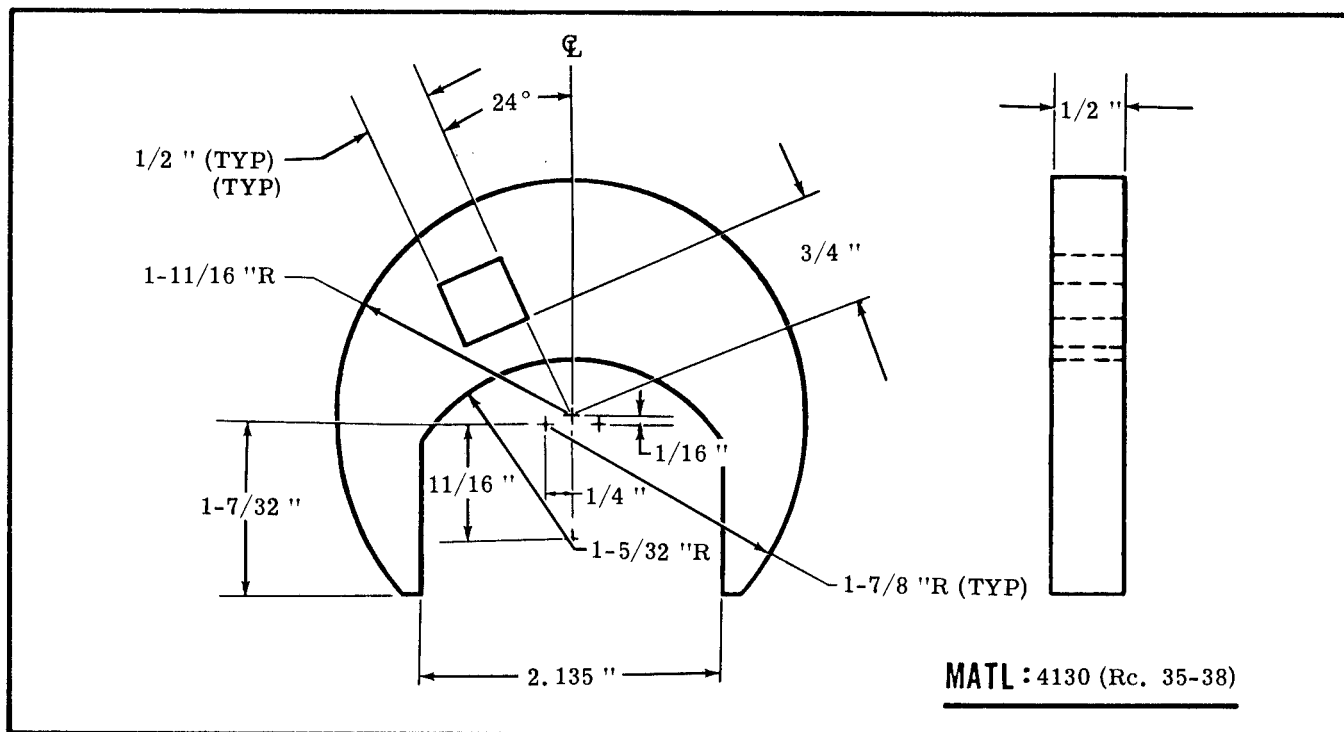

Figure 11A-4. Oil Filter Adapter Wrench Fabrication
A special wrench adapter for adapter nut (11) (Part No. SE-709) is available from the Cessna Service Parts Center, or one may be fabricated as shown in figure 11A-4. Remove any engine accessory that interferes with removal of the adapter.
11A-37. DISASSEMBLY, INSPECTION AND RE-ASSEMBLY. Figure 11A-3 shows the relative position of the internal parts of the filter adapter and may be used as a guide during installation of parts. The bypass and outlet valves are to be installed as complete units, with the valves being staked three places. The detail parts which form the isolation valve may be replaced individually. Also use new seals, lubricate parts with engine oil and replace any part that shows signs of excessive wear. Note that washer (15) is installed with its countersunk side toward outlet valve (13). Tighten plug (21) to a maximum of .40 inch as shown in figure 11A-3. The heli-coil type insert (22) in the adapter may be replaced, although special tools are required. Follow instructions of the tool manufacturer for their use. If the isolation valve should become defective, remove plug (21) and parts (15 through 20). Weld shut vent hole in plug (21). Reinstall washer (15), sleeve (16), O-ring (20) and plug (21) in the adapter. Inspect threads on adapter and in engine for damage. Clean adapter in solvent and dry with compressed air. Ascertain that all passages in the adapter are open and free of foreign material. Also, check that bypass and outlet valves are seated properly.
- a. Assemble adapter nut (11) and new O-ring (12) on adapter (10) in sequence illustrated in figure 11A-3.